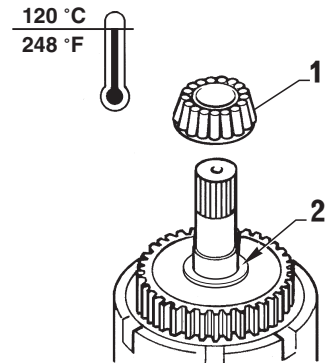

FIG. 1-4
Heat inner race of tapered roller bearing (item 1 Fig. 1-4) to approx. 120 °(248 °F) and push onto input shaft. After cooling down, press bearing carefully against button ring (item 2, Fig. 1-4) by means of a sleeve and a manual press or a copper brass punch.